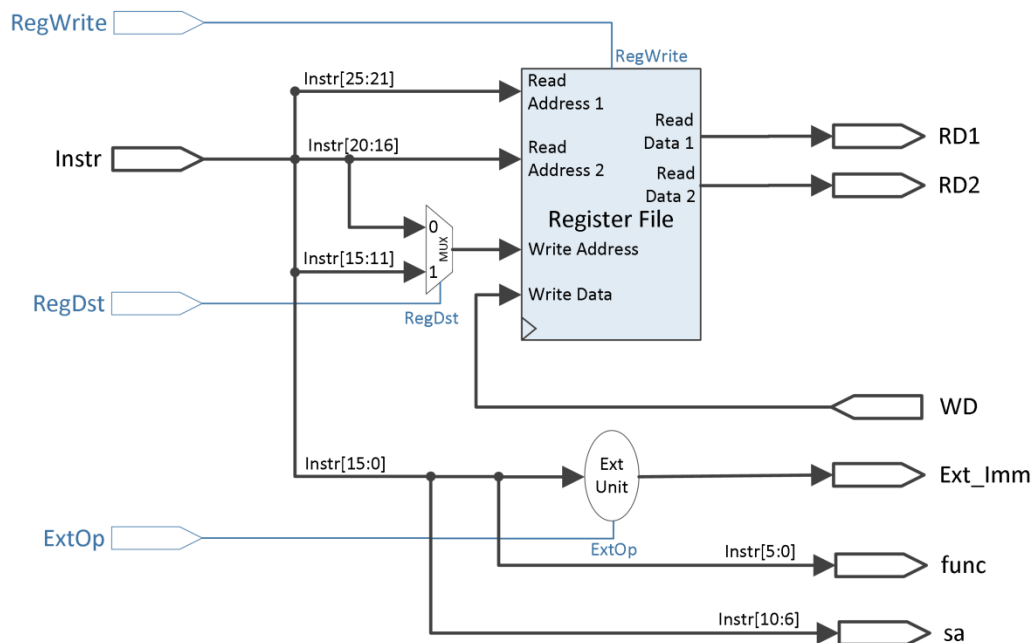

Figure 6.5: Instruction Decode Data-Path for MIPS 32
The data-path of the Instruction Decode Unit is presented in Figure 6.5.
Taking into account the instruction decode data-path from Figure 6.5 design a new component (new entity) in the “test\_env” project for your own single-cycle MIPS 16. All the data fields are 16-bits wide.
The ID entity will contain the hardware components described in Figure 6.5, that will not be implemented with other components (use behavioral VHDL description), except for the Register File (see laboratory 3).
**Attention!** Be careful when transforming the data fields from Figure 6.5 (MIPS 32) into your own single-cycle MIPS 16 implementation.